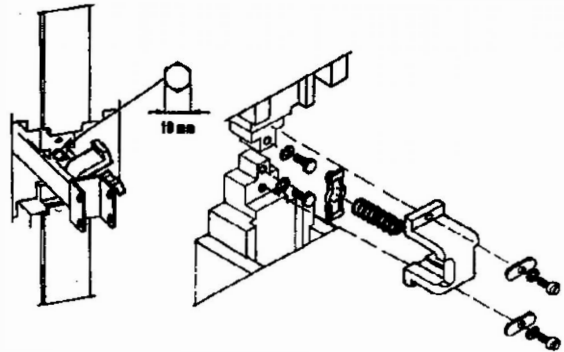

Figure 7 - Damper Contact Renewal
NOTE: The damper contacts should be replaced when the main contacts are renewed. See "Renewal of Damper Contacts" and Figure 7.
4. Remove contact guide bracket, return spring, and movable contact by removing the 2 mounting screws. See Figure 7. Tilt the guide bracket as shown to remove.